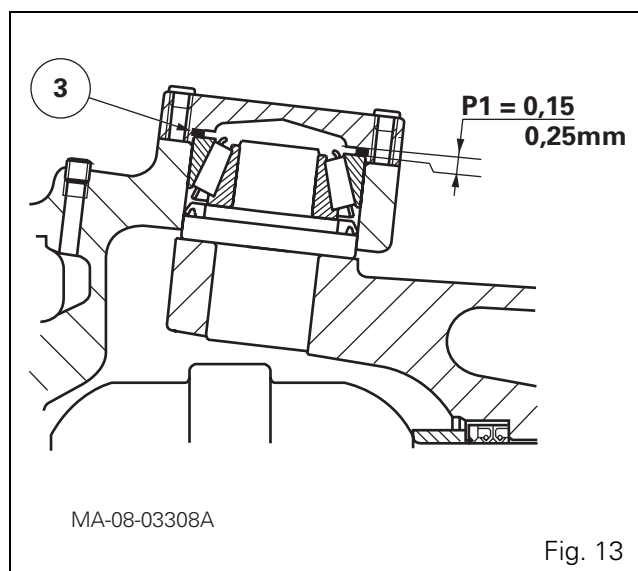
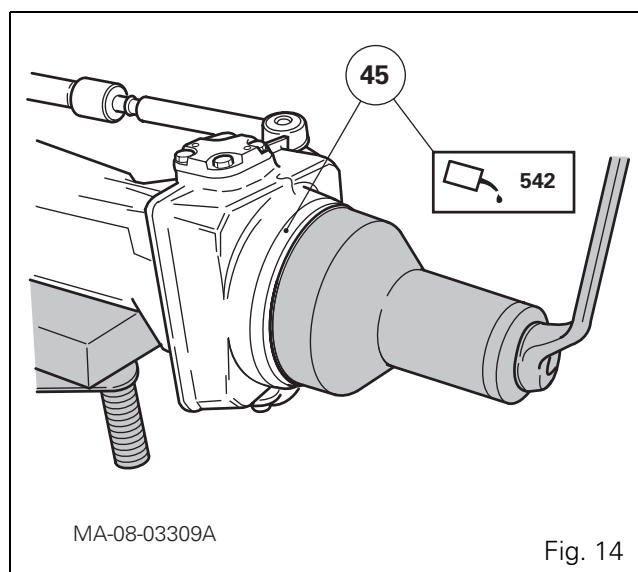

Fig. 13
Fig. 14
Shimming P1 (Fig. 13)
70. Fill the clearance measured during the previous step with a corresponding thickness of shims (3). To obtain **P1** (Fig. 13), add extra shims between 0.15 and 0.25 mm thick (0.15 to 0.25 is the preload value).
71. Remove screws (1) and cover plate (2). Refit shims (3) selected previously. Refit the cover plate. Tighten the screws to a torque of 115 - 140 Nm.
72. Continue the reassembly procedure. Using a grease gun, grease the bearings (13) (14) and (4) (5).
73. Smear the rim of the seal (45) with Loctite 542 (Fig. 14) and oil the lips.